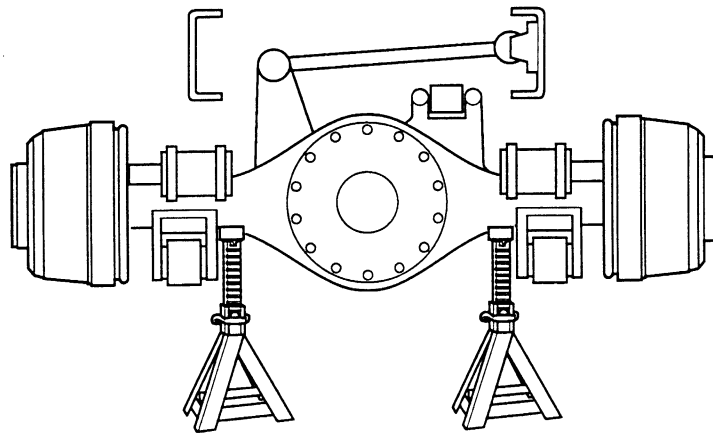

Figure 2-82. Axle No. 1 through 5 Jackstand Placement
- e. Tire Removal.** Before removing any tires, position jackstands under axles, walking beams or frame. See Figure 2-82 through 2-84 for proper jackstand placement. This will secure the truck for safe tire removal.